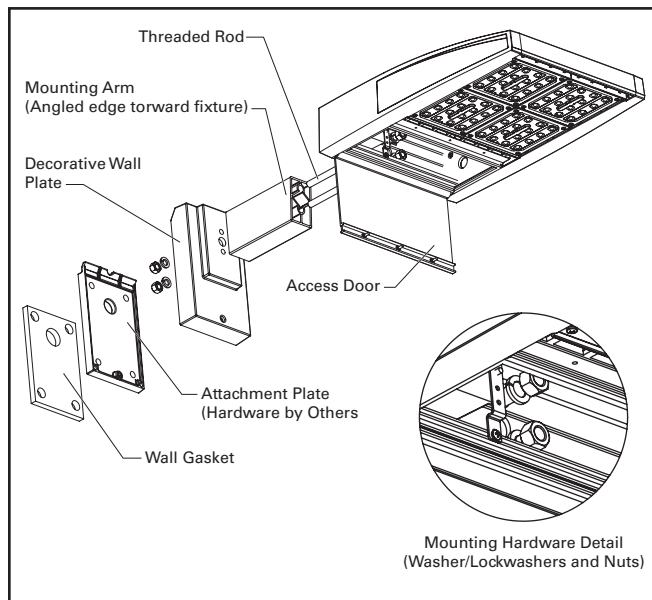

Figure 2.
1. Loosen (3) screws located in the access door of the fixture and open the door.
4. Slide the included arm over the bolts as shown in Figure 2. Make sure the angled portion of the arm matches the angle at the back of the fixture so that the assembly will be level upon completion. The long side should be at the top of the fixture.